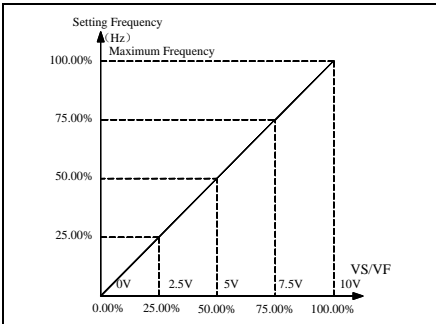

Figure 7-25 Analog Voltage Input 0~10V
**F8-00 ones place=0**, the linear range of terminal VS voltage input: 0~10V=0~100%. See Figure 7-25.
**F8-00 tens place=0**, the linear range of terminal VF voltage input: 0~10V=0~100%. See Figure 7-25.